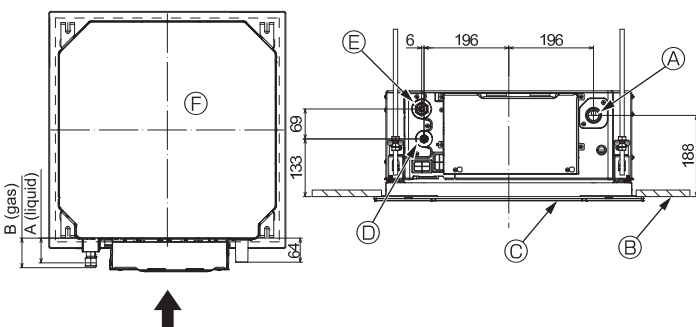

Fig. 5-7
5.3. Refrigerant and drainage piping locations (Fig.5-7)
- (A) Drain pipe
- (B) Ceiling
- (C) Crille
- (D) Refrigerant pipe (liquid)
- (E) Refrigerant pipe (gas)
- (F) Main unit